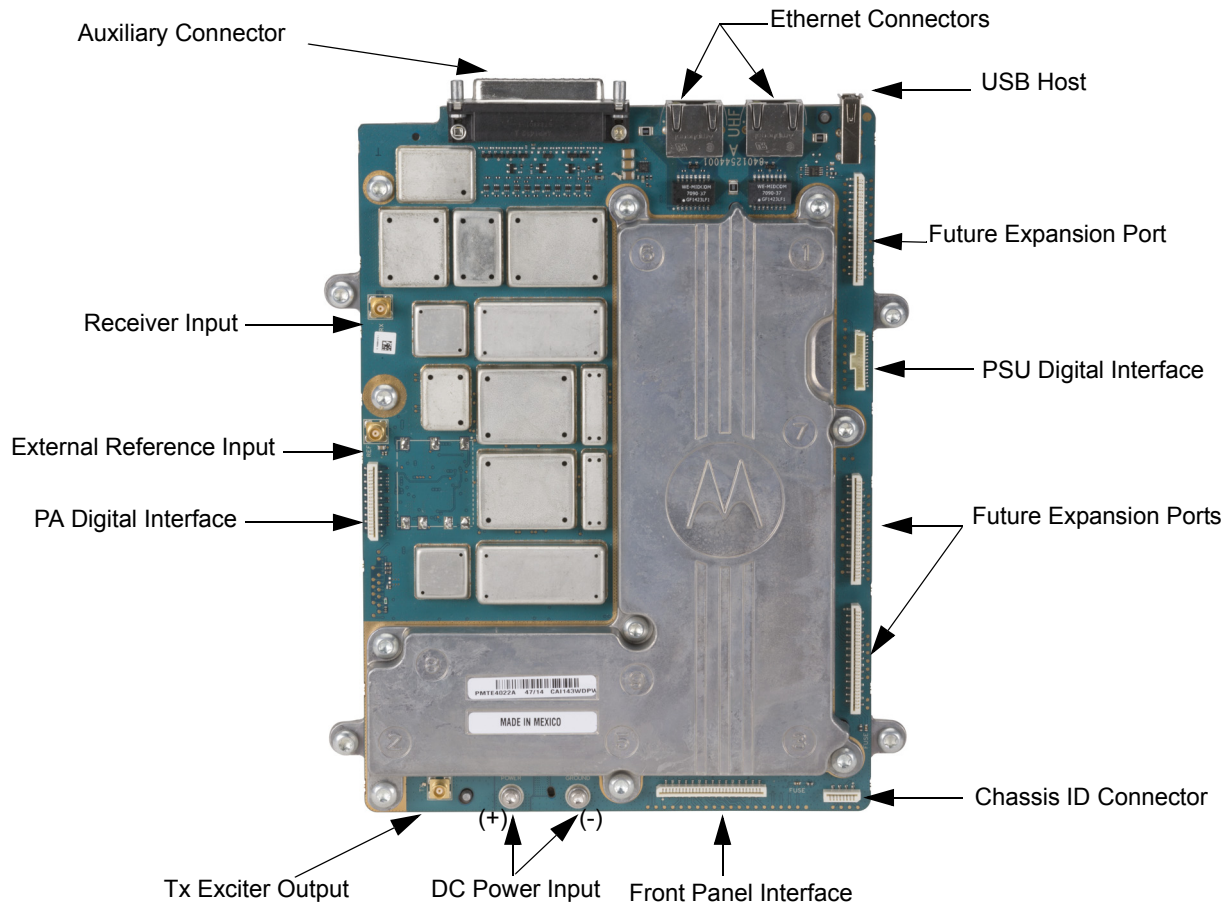
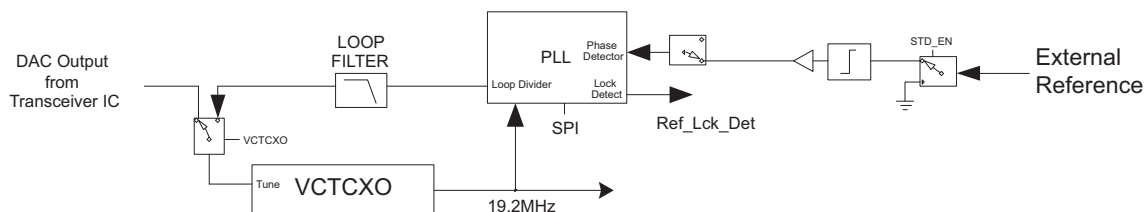
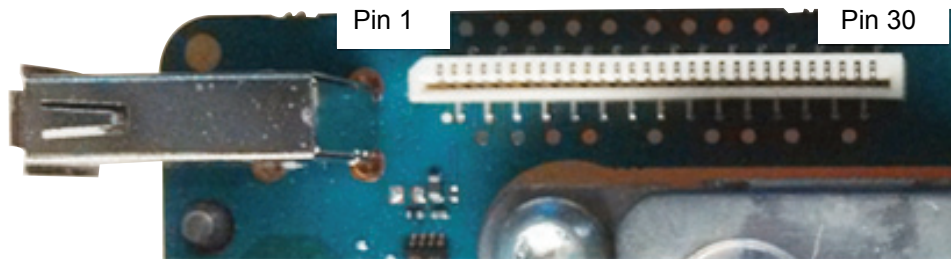

Figure 3-1 Modem Module Connector Locations
Figure 3-2 High Stability Reference Circuit
*Figure 3-5 Power Supply Interface Connector Pin Locations*
Figure 3-1 shows the Modem Module input and output external connections.
The Modem Module includes the receiver circuitry for the station. A cable connects the board connector to a BNC connector located on the rear panel of the repeater. See Figure 3-1 for the location of this connector. The receiver section performs highly-selective bandpass filtering and dual down-conversion of the desired RF signal. A custom Receiver IC then performs an analog-to-digital conversion of the desired received signal and outputs the digitized signal to the controller section via a serial synchronous interface. Included in the receiver section is:
The Exciter Subsystem in the Modem Module (in conjunction with the Power Amplifier Module) provides the transmitter functions for the station. The Exciter circuitry generates a low-level modulated Radio Frequency (RF) signal which is input to the Power Amplifier (PA) module for further amplification and output to the transmit antenna. A coaxial cable is used to connect the Tx exciter output to the PA module. See Figure 3-1 for the exact location of this connector. The Exciter Module interfaces directly with the controller section, which provides control signals and monitoring, and routes transmit data to the Exciter.
The RF carrier is generated by a frequency synthesizer consisting of synthesizer circuitry and Voltage-Controlled Oscillator (VCO) circuitry. Exciter circuit control signals, monitoring, and audio processing are handled by the controller section of the Modem Module. The power leveling circuitry of the transmitter system is located in the Power Amplifier Module and passed onto the exciter stages through the PA-Modem interface flex cable. See Figure 3-1 for the location. Included in the exciter section are:
The high-stability reference block can be used to enhance the 0.5 ppm Voltage Controlled Temperature Compensated Crystal Oscillator. The block diagram is shown below in Figure 3-2. An external reference can be applied to lock the on board VCTCXO. This function can be enabled via the customer programming software. The connection is made via a cable connecting a BNC connector on the rear panel to a connector on the modem module. The location of the connector on the modem module can be found in Figure 3-1.
The digital interface to the power amplifier module utilizes a 20 pin vertical LIF connector. See Figure 3-1 for the locations of these connectors. Figure 3-4 shows the pin number locations.
The power supply digital interface utilizes a 15 pin Pico-Clasp™ connector. The location is detailed in Figure 3-1. Figure 3-5 shows the pin number locations.
The expansion board interface utilizes a 30 pin vertical LIF connector. The location is detailed in Figure 3-1. Figure 3-6 shows the pin number locations.
The Chassis ID utilizes an 8 pin vertical LIF connector. The location is detailed in Figure 3-1. Figure 3-7 shows the pin number locations. The repeater chassis information is necessary for warranty and purchased software features so this must be connected.